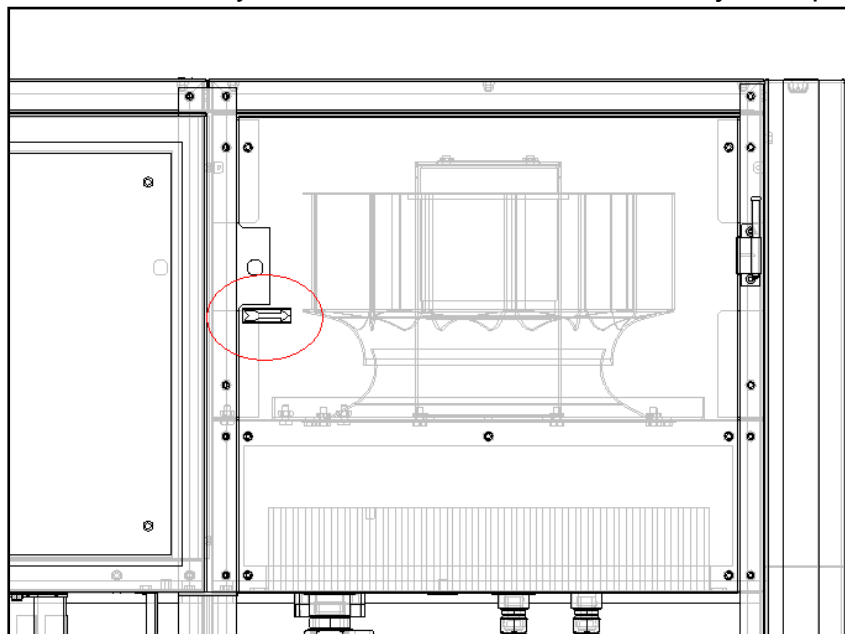

Figure 5.1
5. **Check Rotation** - Press the "Emergency Stop" button within a few seconds after startup and identify the direction of the airend and fan motor rotation(refer to figure 5.1). If the motor rotation is incorrect, for units equipped with a variable speed drive, switch any 2 of the 3 power cables on the bottom of the drive. If Fan rotation is incorrect, switch any 2 of the 3 power cables on the incoming power supply of the fan motor contactor.